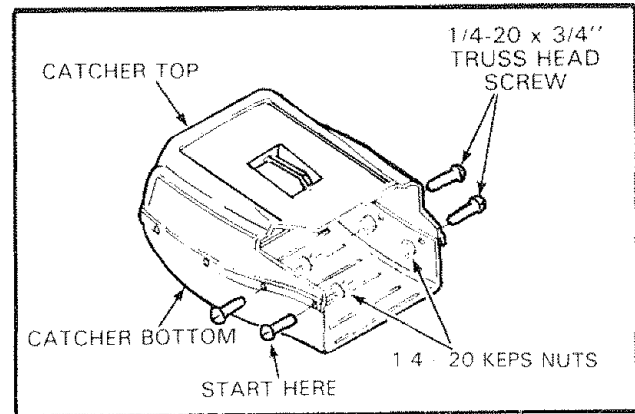

FIG. 8
1. Position top half of catcher on the bottom half (See Fig. 8).
2. Insert 1/4-20 x 3/4 truss head screw through right front hole of catcher; install 1/4 nut on screw and leave loose (See Fig. 8).